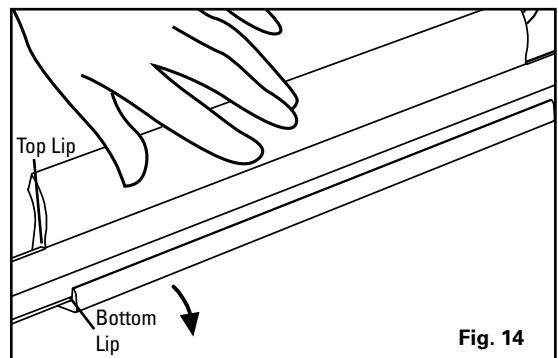

Fig. 14
3. Place hand on blade, pressing blade away from the bar. (Fig. 14).